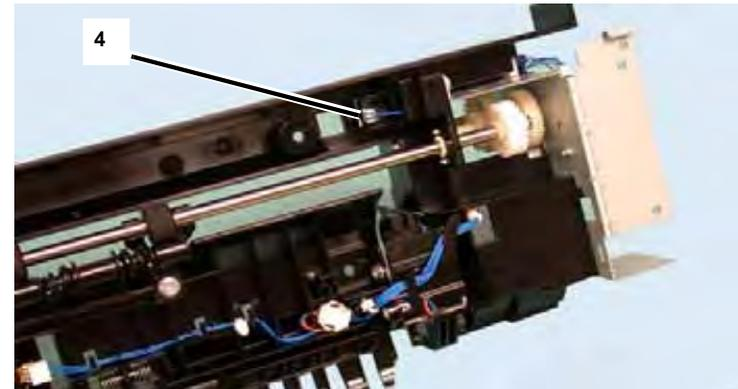

Figure 2 Removal
4. Left Hand Chute Interlock Switch removal; disconnect the connector, and release the sensor from the assembly (Figure 2).